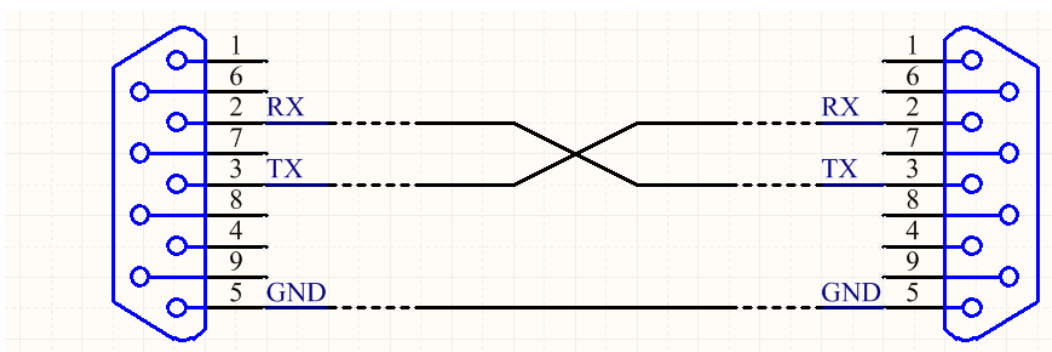

Figure 3.2.4 232 wiring diagram
(3) Wiring diagram: As shown in Figure 3.2.4, if USB to 232 cable is used, the serial port still needs to be connected to RS232 communication cable and then connected to the power supply.